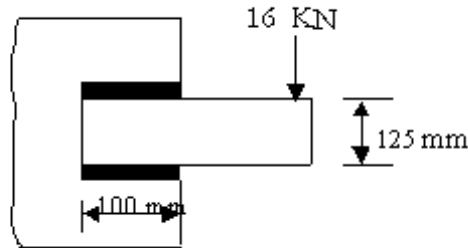

Figure 1:
5. A 125 X 95 X 10 mm angle is welded to a frame by two 10 mm fillet welds, as shown in Figure 1. A load of 16 kN is applied normal to the gravity axis at a distance of 300 mm from the centre of gravity of welds. Find maximum shear stress in the welds, assuming each weld to be 100 mm long and parallel to the axis of the angle.